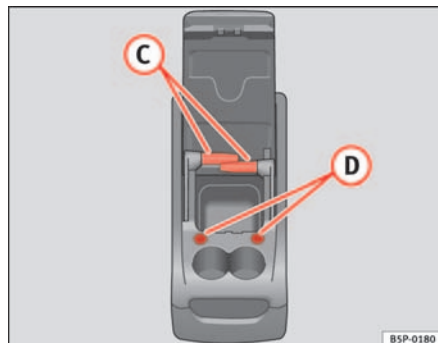

Fig. 113 Mobile stowage compartment Uses
To use the table (C) ⇒ fig. 113, it must be removed from its compartment on the side of the mobile stowage compartment and fitted into compartment (D) ⇒ fig. 113 on the front section of the mobile stowage compartment.